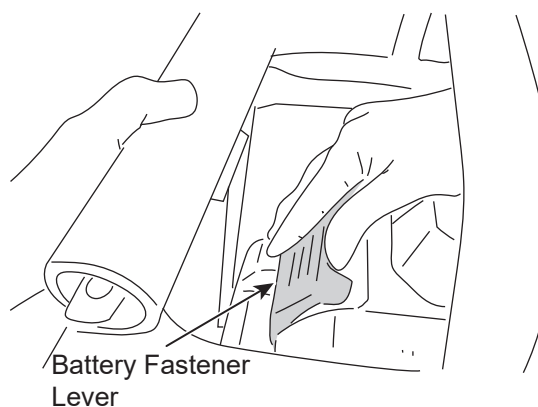

Fig.3
4. Push down the Battery Pack and hook the battery fastener to it. (Fig.3)
5. Push the battery fastener lever up and lock the Battery Pack. (Fig.3)